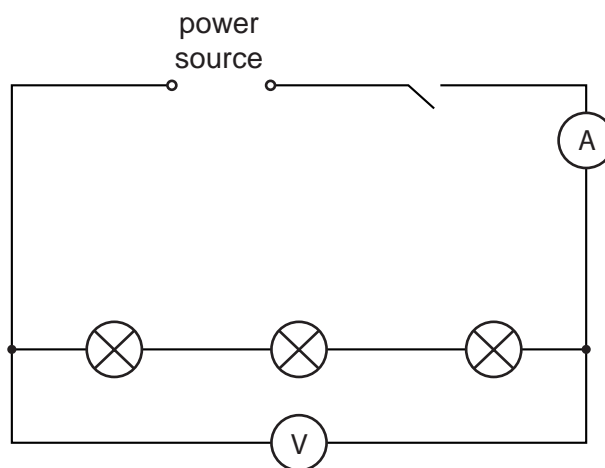

Fig. 2.1
- (vi) Sufficient connecting leads to set up the circuit as shown in Fig. 2.1, plus two additional leads.
1. The circuit is to be set up for the candidates as shown in Fig. 2.1.
Reconnect the circuit as shown in Fig. 2.1.